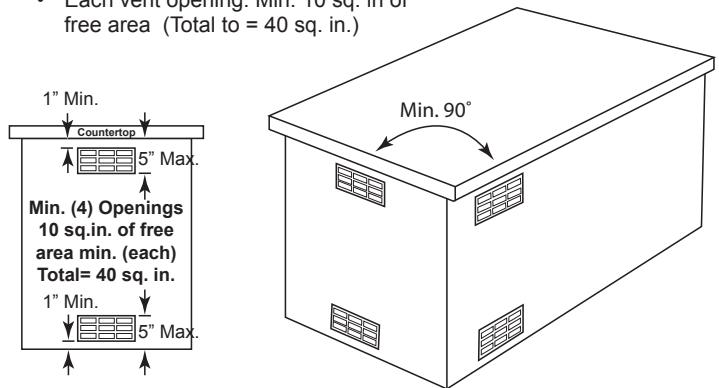

Figure 9
- Two openings must be in the side walls of the enclosure, at the top and spaced a minimum of 90° from each other. The openings must begin 1" or less below the countertop edge and end no more than 5" below the countertop edge. See Figure 9.
- **The openings must remain unobstructed:** The clearance between the openings and any items outside of the enclosure is a minimum of 6". The clearance between the openings and any items within the enclosure is a minimum of 2". This provides free flowing air inside and outside the enclosure to keep the island cool during operation of the Side Burner. See Figure 9.